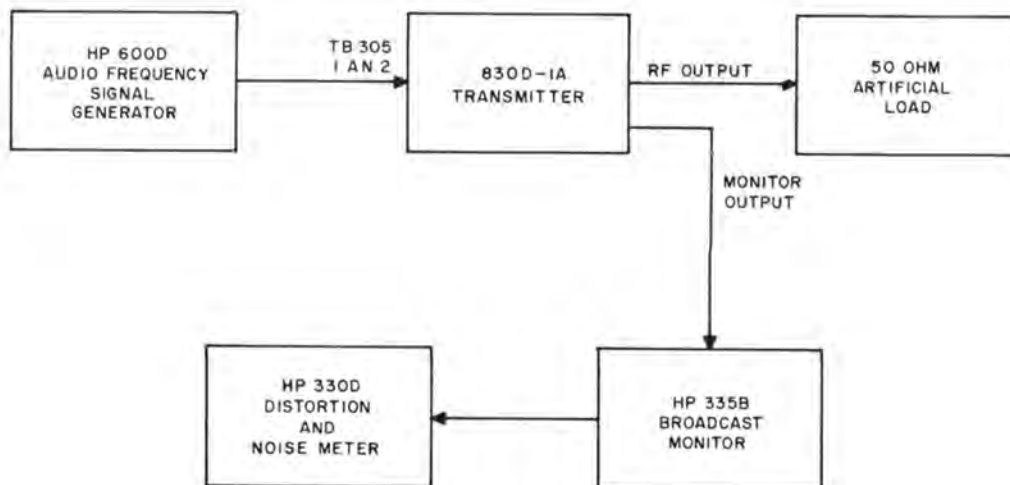

Figure 5-1. Distortion Test Setup
a. Refer to figure 5-1. Connect an audio frequency signal generator, such as a Hewlett-Packard Model 600D, to the exciter audio input, terminals 1 and 2 of TB305. (Disconnect the station console audio input leads when making this connection.) Connect a distortion and noise meter, such as a Hewlett-Packard Model 330D, to the broadcast monitor. Connect a 50-ohm artificial load to the r-f output connector located on top of the transmitter cabinet. Turn on the transmitter.